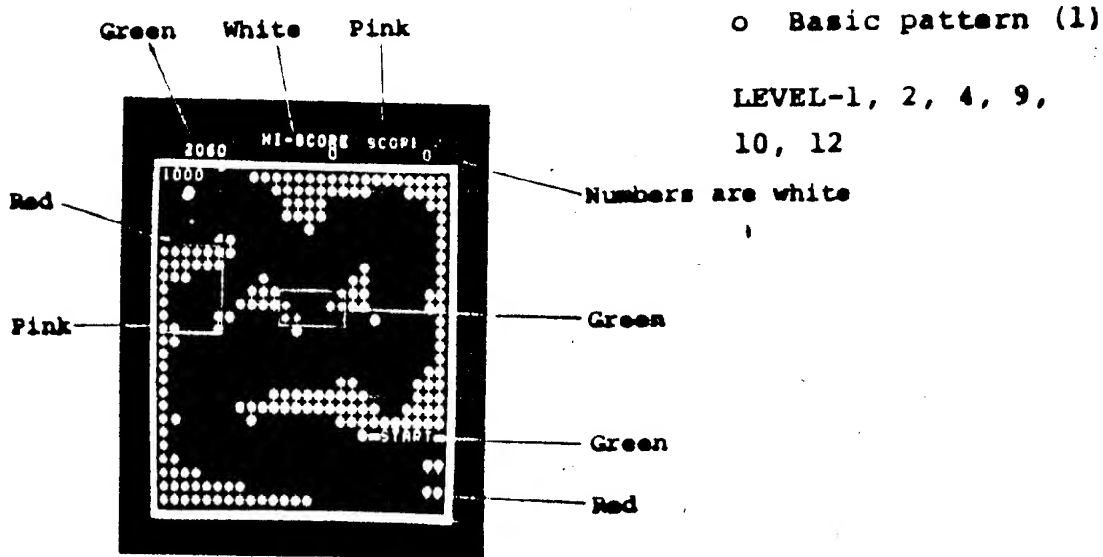

Fig. 21
20. Color differentiation of basic patterns (Figs. 21, 22 and 23)